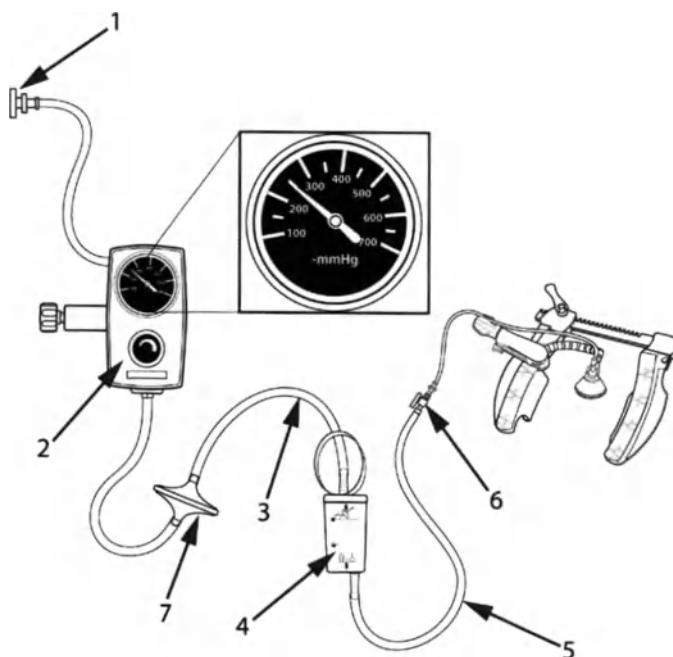

Figure 5: ACROBAT-i Vacuum Positioner System
5. Attach the **YELLOW** luer lock fitting of the ACROBAT-i Positioner Tubing Set to the **YELLOW** luer fitting of the Vacuum Tubing on the ACROBAT-i Positioner. Attach the other end of the tubing from the Tubing Set to the bottom barbed fitting of the ACROBAT-i Canister or other fluid collection canister (not included). Make sure the Stopcock is in the closed air position. The Tubing Set with the Filter that is connected to the top of the Canister should then connect from the top of the Canister to a regulated vacuum source. Set the Vacuum Regulator to 250 mmHg. Refer to Figure 5 for proper Vacuum Tubing and system setup.